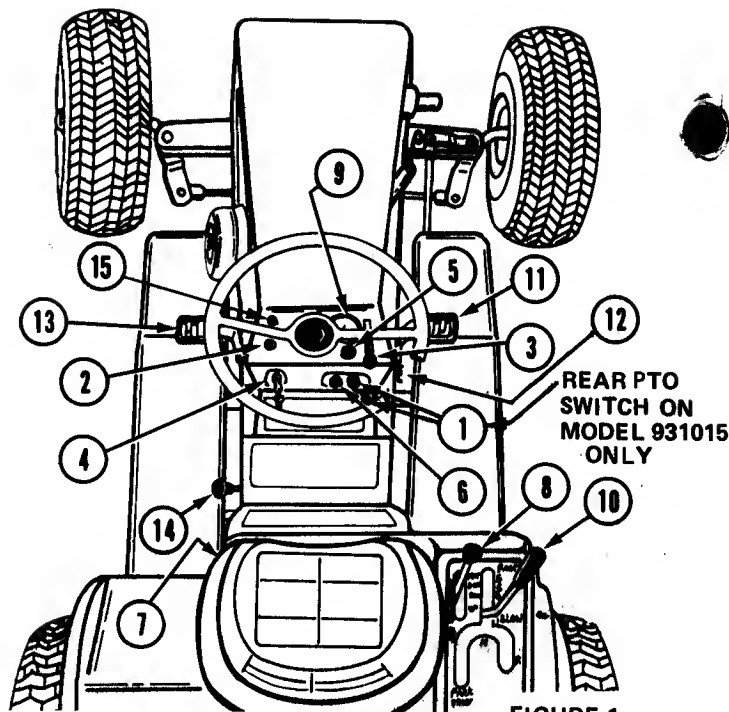
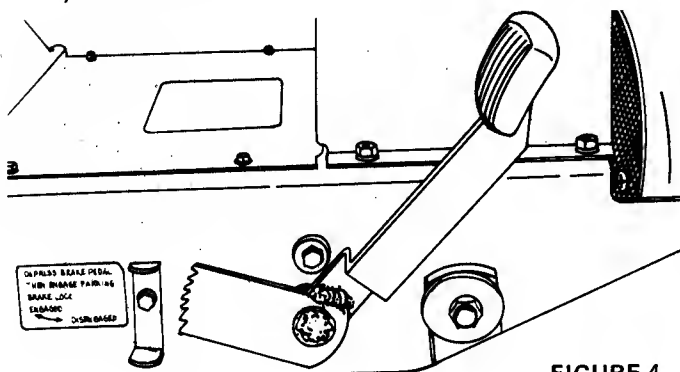

FIGURE 1
FIGURE 4
- ① **Implement Power Control Switch (Figure 1).** Pull the switch out (ON) to engage the electromagnetic clutch to drive the mower and front mounted attachments. (12, 14 and 16 H.P.)
- ② **Implement Power Indicator Light (Figure 1).** This light glows red when either of the implement power control switches ① is pulled out to indicate that the attachment is engaged.
- ③ **Throttle Lever (Figure 1).** Raise the lever to increase engine speed. Lower the lever to decrease engine speed.
- ④ **Ignition Switch (Figure 1).** Turn the key fully clockwise to start the engine and release when the engine starts. Turn the key counterclockwise to stop the engine.
- ⑤ **Choke Control (Figure 1).** Pull choke control out when attempting to start a cold engine or when starting during cold weather. When engine starts, gradually push choke in. Normally, it is not necessary to use the choke when starting a warm engine.
- ⑥ **Light Switch (Figure 1).** Pull the switch out to turn on the front and rear lights. The ignition key must be turned on before the lights work.
- ⑦ **Seat Interlock Switch (Figure 1).** This switch, located in the seat, is actuated by the operators weight. If the operator leaves the seat for any reason while the PTO is "ON" or the shift lever is not in "PARK START" the PTO clutch and engine ignition are both shut off. When the PTO is "OFF" and the shift lever is in "PARK/START" leaving the seat will not cause the engine to stop.
- ⑧ **Hydraulic Lift (Figure 1)** This lever controls the hydraulic system used to raise and lower attachments. The lever has four positions – UP, HOLD, DOWN and FLOAT. The normal out-of-use position is the "HOLD" position. In this position the attachment will not raise or lower. When it is desired to raise the implement, move the lever to the "UP" position; to lower the attachment move the lever to the "DOWN" position. Place the lever in the "FLOAT" position to allow the attachments to follow the ground contours.
- ⑨ **Ammeter (Figure 1).** The ammeter indicates the rate of battery charge or discharge. The indicator should register on the (+) side of the dial when the engine is running at any speed above a slow idle. When the engine is idling or with a fully charged battery, the ammeter may not show charge. Should the ammeter register on the (–) side of the dial for an extended period of time with the engine running, it indicates the alternator is not charging the battery. Check the battery connections or contact your dealer.
- ⑩ **Hand Control Lever (Figure 1).** This lever regulates both tractor speed and direction. Move the lever for-
- ⑪ **Brake Pedal (Figure 1)** When this pedal is depressed the friction brakes will be applied to stop the tractor, DEPRESS THE NEUTRALIZER PEDAL ⑬ OR RETURN THE HYDROSTATIC CONTROL LEVER TO NEUTRAL BEFORE ATTEMPTING TO STOP THE TRACTOR.
- ⑫ **Parking Brake (Figure 1)** The parking brake is a latch that locks the brake pedal. To apply the parking brake, depress the brake pedal, flip up the parking brake latch. ⑫ To disengage the parking brake, depress the brake pedal and push down the latch.
- ⑬ **Neutralizer Pedal (Figure 1).** When this pedal is fully depressed the hand control lever will return to neutral and the forward or reverse motion of the tractor will stop. KEEP FOOT OFF PEDAL DURING NORMAL OPERATION OR WHEN MOVING THE HAND CONTROL LEVER. The pedal is an optional control for slowing down or stopping. Use of the pedal and hand control lever simultaneously can result in misadjusted hydrostatic linkage.
- Be sure the Implement Power Control Switch ① Figure 1, is pushed in (OFF).
- Raise throttle lever ③ Figure 1, to approximately 1/3 fast position.
- Pull choke control ⑤ Figure 1, all the way out if engine is cold. If engine is warm, little or no choke may be required.
- Turn ignition key ④ Figure 1, clockwise all the way. Release key as soon as the engine starts and push choke button in. In cold weather it may be necessary to push choke in gradually until engine warms up. If engine fails to start on the first attempt, turn key to off, wait a few minutes and try again. Do not operate the starting motor continuously for more than 30 seconds at a time.
To stop the tractor, depress neutralizer pedal completely ⑪ or move control lever ⑩ to neutral, Figure 1, and depress the brake pedal. Then place the control lever in the "Park Start" position and set the parking brake. Figure 4.
1. Move the hand control lever ⑩ Figure 1, in "Park-Start" position and set the parking brake, Figure 4.
2. Disengage Implement Power Control Switches ① Figure 1, and driven attachments.
4. Lower the throttle lever ③ Figure 1, and allow engine to idle for a short period before turning it off.
5. Turn the ignition key ⑥ Figure 1, counterclockwise to stop engine.